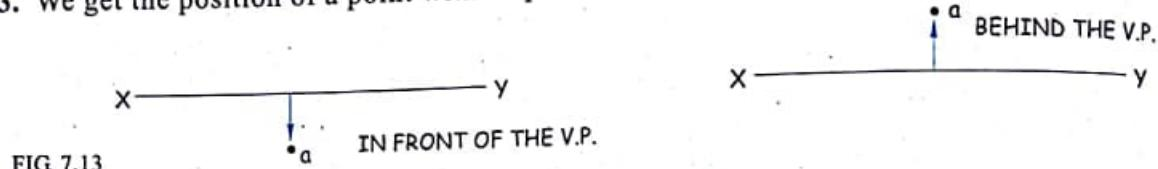

FIG. 7.13
- We get the position of a point with respect to the XY line as shown in figure 7.13.